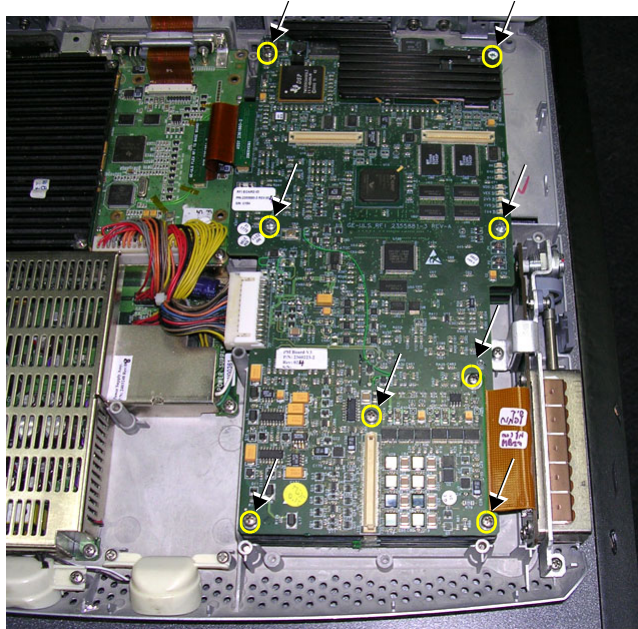
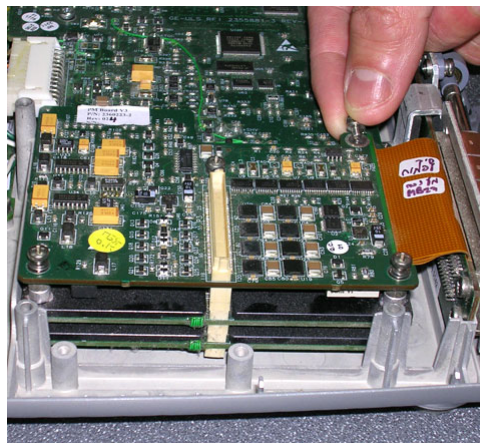

Figure 8-37 Loosen Screws that Secure TR32 and RFI Boards to Bottom Assembly
Figure 8-38 Removing the Screws
- 3) Loosen the eight screws that secure the TR32 and RFI Boards to the Bottom Assembly, as shown in Figure 8-37 below.
- 4) Remove the eight screws - see Figure 8-38.
- 6.) Return the eight screws and fasten the TR32 and RFI Board assembly firmly in position on the Bottom Assembly (refer to Figure 8-37 and Figure 8-38 on page 8-33).